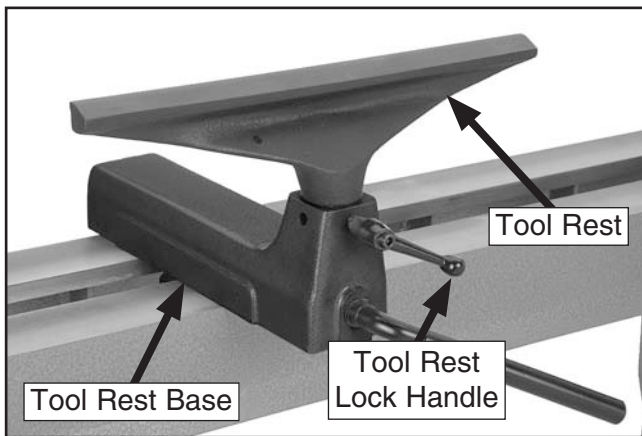

Figure 13. Tool rest installed on the tool rest base.
- Insert the tool rest into the tool rest base and tighten the tool rest lock handle, as shown in **Figure 13**.